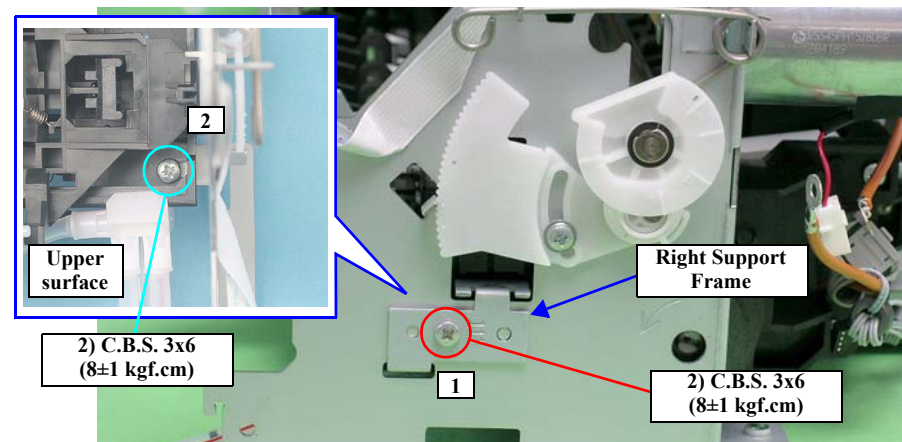

Figure 4-100. Removing the Right Support Frame
- Tighten the screws in the order shown in Figure 4-100.